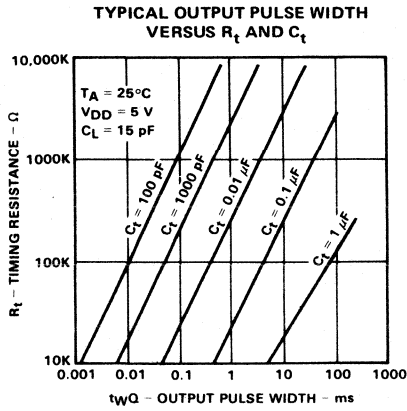
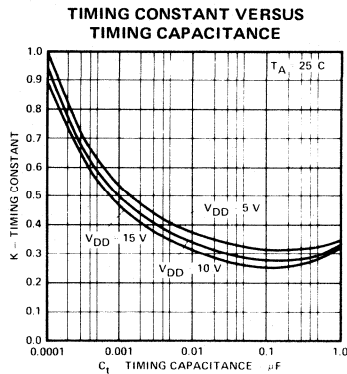

FIGURE 1.
Fig. 3.
3. Polarized capacitors may be used directly. The (+) terminal of a polarized capacitor is connected to pin 2 (14) and the (-) terminal to pin 1 (15). Pin 2 (14) will remain positive with respect to pin 1 (15).
4. The output pulse width can be determined from the pulse width versus C_t or R_t graphs (Figures 1 and 2).
The first step is to choose a capacitor. Figure 1 shows pulse width versus resistor value with the capacitor value as the running parameter. A capacitor value is chosen so that the approximate resistor value is between $20\text{ k}\Omega$ and $2\text{ M}\Omega$. Once the capacitor is determined, the timing constant (K) is found from Figure 3 for a specific V_{DD} . The resistor value is then determined from Equation 2. If the resistor value is less than $20\text{ k}\Omega$ the timing constant should be increased by 20% and the resistor value re-calculated. The resistor must be larger than $5\text{ k}\Omega$.
From Figure 1 a capacitor value between 0.01 and .1 μF would be reasonable. A $0.022\text{ }\mu\text{F}$ capacitor is the only capacitor that is available.
The timing constant for a $0.022\text{ }\mu\text{F}$ at $10\text{ V } V_{DD}$ is found from Figure 3 to be approximately 0.3.